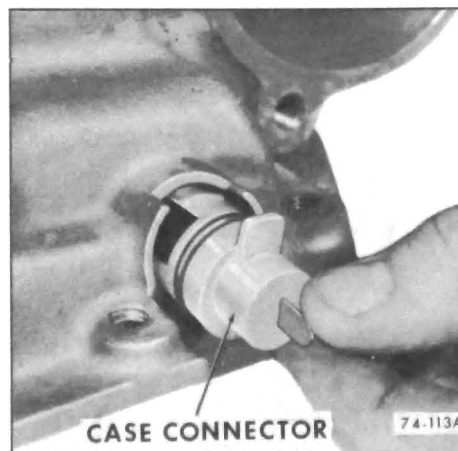

Figure 74-106
2. If necessary remove case connector from case. Inspect connector "O" ring. If nicked, torn or worn replace. See Figure 74-106.